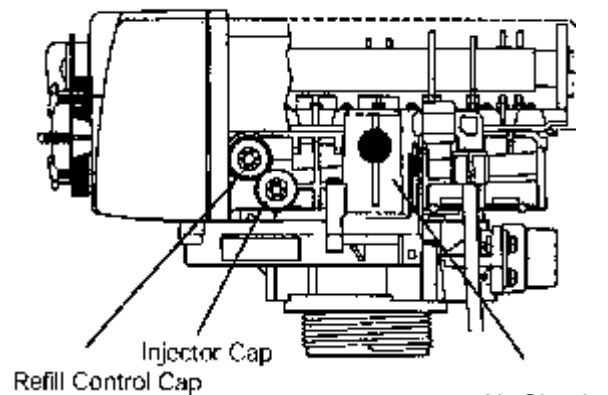

Figure 7
5. To start up the unit: make sure the water supply valve is in the full open position. Carefully rotate the indicator knob, Figure 8, **counterclockwise** until the indicator points directly to the centre of the **REFILL** position and hold there until the air check (Figure 7), fills with water and water flows through the brine line into the brine tank. Do not run the water into the brine tank for more than one or two minutes.